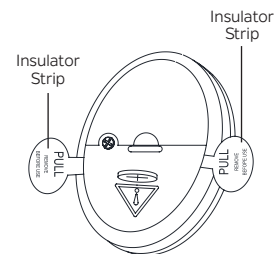

Fig. 23
Step 1. To activate the transmitter, carefully pull the insulator strips out of the transmitter to activate the two pre-installed CR2032 3V button/coin cell batteries. Discard insulator strips. (**Fig. 23**)